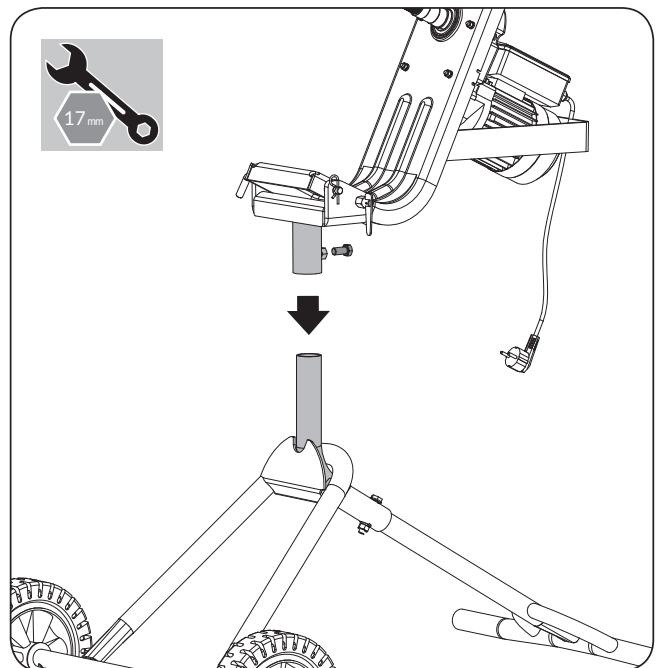

Figure 1c
4. Slide the swivel bracket and drum support frame onto the shaft of the cement mixer frame. Secure them together with a M10x25 bolt. (See **Figure 1c**)